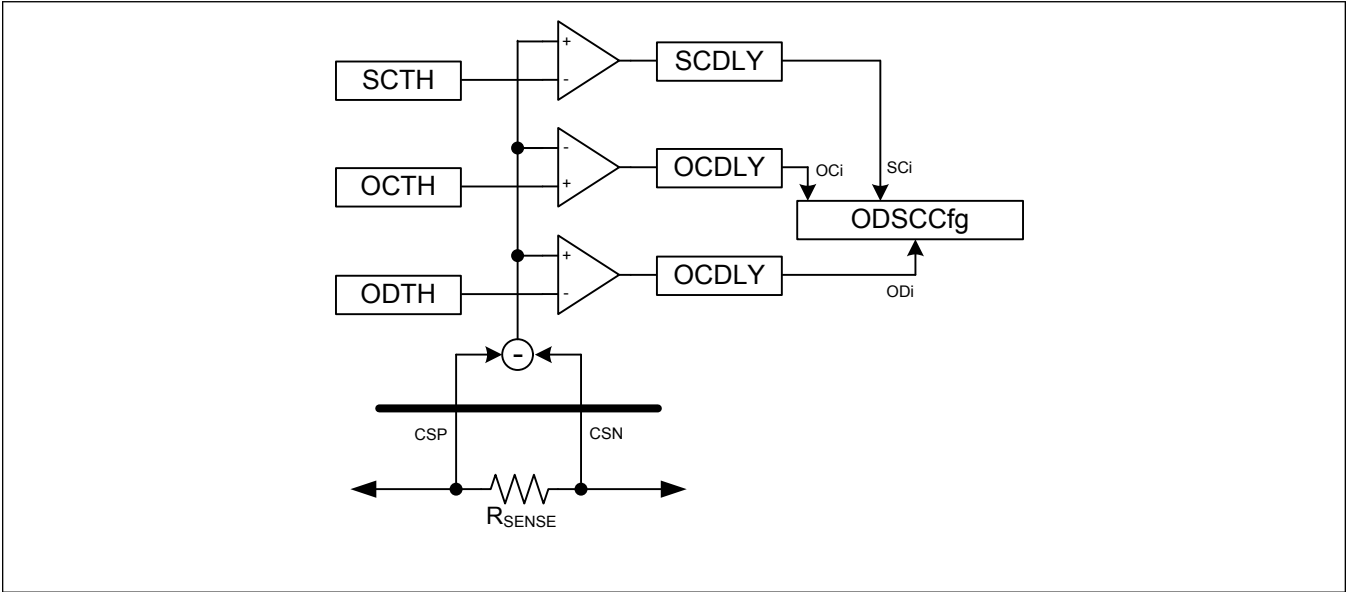

Figure 13. Overcurrent Comparator Diagram
The MAX17335 contains three programmable fast overcurrent comparators called Overdischarge (OD), Short-Circuit (SC), and Overcharge (OC) that allow control protection for overdischarge current, short-circuit current, and overcharge current. These comparators have programmable threshold levels and programmable debounced delays. See Figure 13.